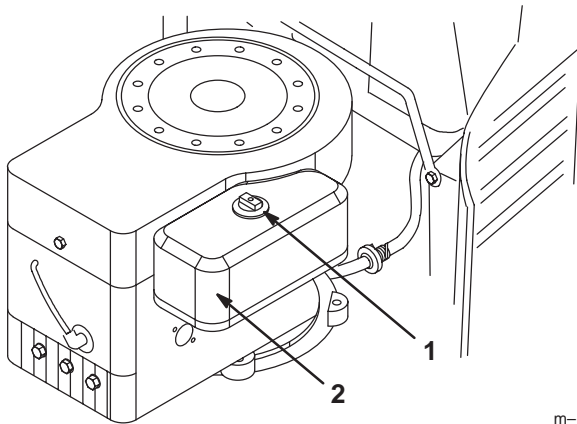

Figure 20
3. Clean around the air cleaner to prevent dirt from getting into the engine and causing damage. Unscrew the knob and remove the air cleaner cover (Fig. 20).
2. Install the air cleaner cover and knob (Fig. 20). Tighten the knob snugly.